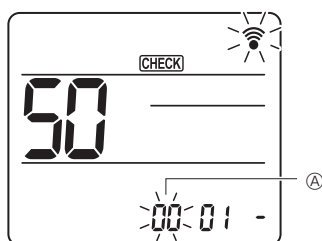

Fig. 11-2
Press the **[↑]** button to set unit number ①. (Fig. 11-2)